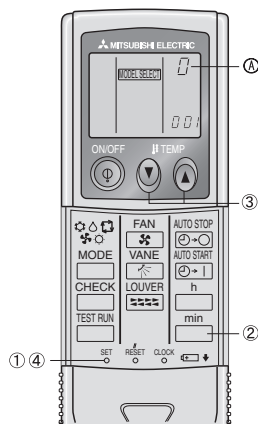

Fig. 6-8
5) Assigning a remote controller to each unit (Fig. 6-8)
6) Wireless remote controller pair number setting operation (Fig. 6-8)
- ① Press the SET button with something sharp at the end. Start this operation from the status of remote controller display turned off. **MODEL SELECT** blinks and Model No. is lighted.
- ② Press the $\frac{\text{min}}$ button twice continuously. Pair No. "0" blinks.
- ③ Press the temp \odot \ominus buttons to set the pair number you want to set. If you mistook the operation, press the ON/OFF \odot button and operate again from procedure 2.
- ④ Press the SET button with something sharp at the end. Set pair number is lighted for three seconds then turned off.